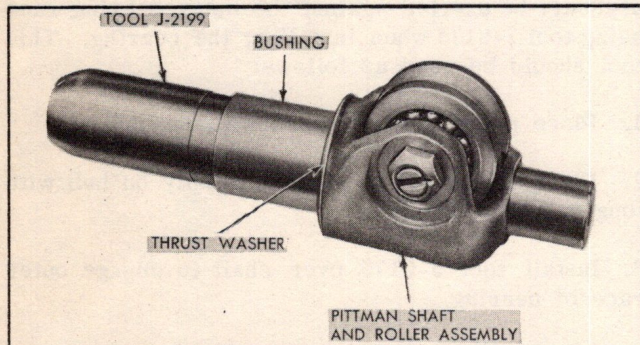

Fig. 2 Protector J-2199 Installed
1. Slide thrust washer and bushing onto pitman shaft and then slide seal protector J-2199 down over the splines (Fig. 2).